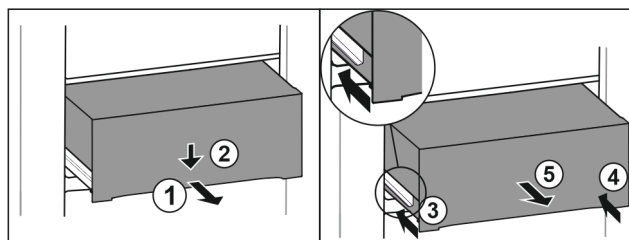

Fig. 114
- ▶ Pull out the drawer halfway. Fig. 114 (1)
- ▶ Press down the drawer on the front. Fig. 114 (2)
- ▶ Push in the left rail approximately 2 cm. Fig. 114 (3)
- ▶ Push in the right rail approximately 2 cm. Fig. 114 (4)
- ▶ Remove drawer to the front. Fig. 114 (5)